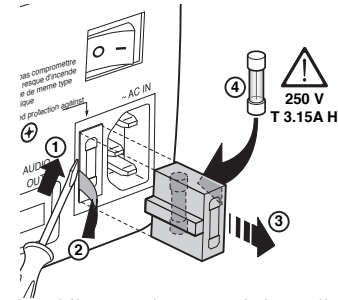

Fig. 4
- Only replace the safety fuse (on the power socket at the rear of projector) with a fuse identical in type and characteristics (T 3.15A H) (Fig. 4).